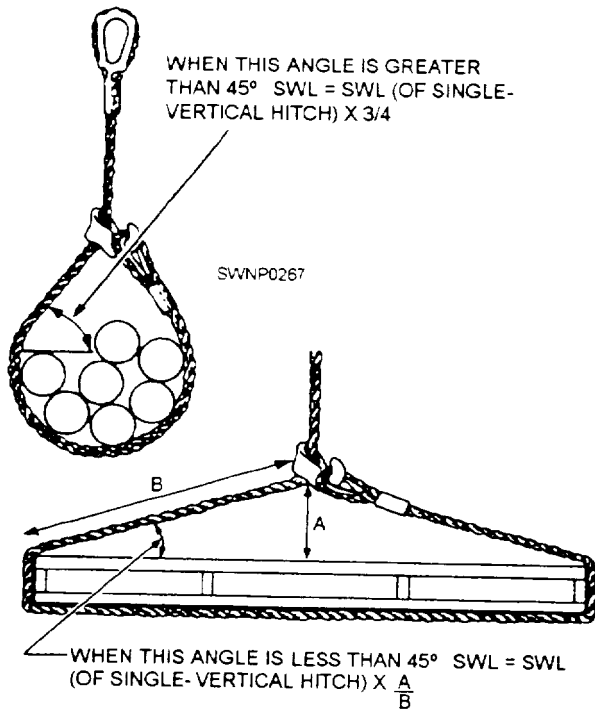

Figure 6-20.—Determination of single-choker hitch sling capacity.
**Single-choker hitch** (fig. 6-20):